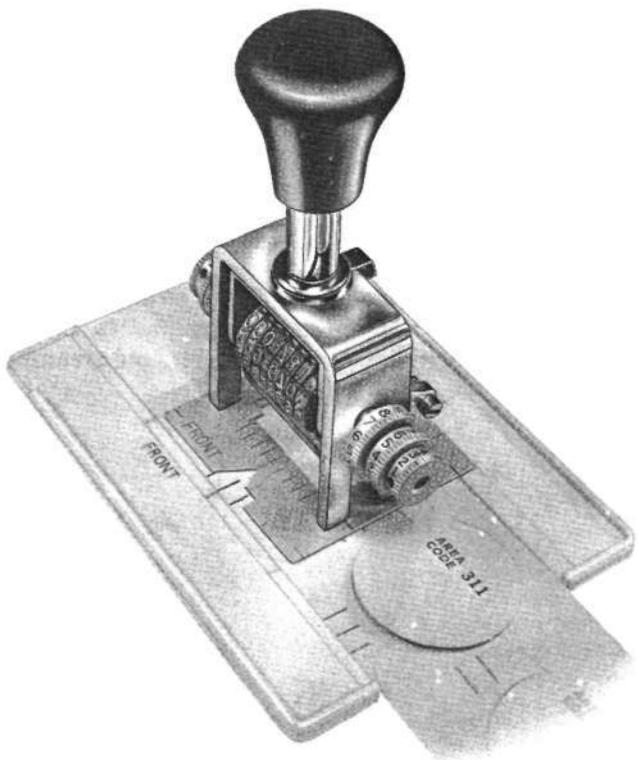

Fig. 5 - Aligning Numbering Machine
- (4) Place numbering machine in upper right corner of indentation on lid (Fig. 5).
- (5) Print number.